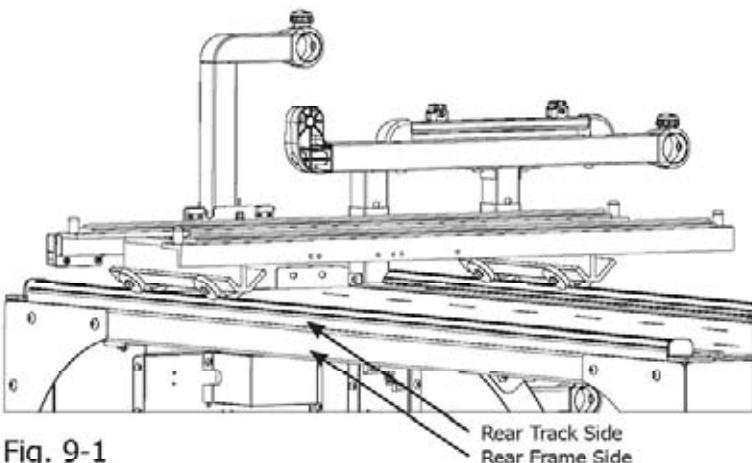

Fig. 9-1
**9-1:** Place and align the Bottom Carriage Assembly on the track assemblies. The Front Track Assembly should be loosely fastened from a previous step. (Fig. 9-1)
**9-2:** The Rear Track Support should be aligned flush with the Table Frame Side from a previous step. If not, align and securely fasten. (Fig. 9-1)